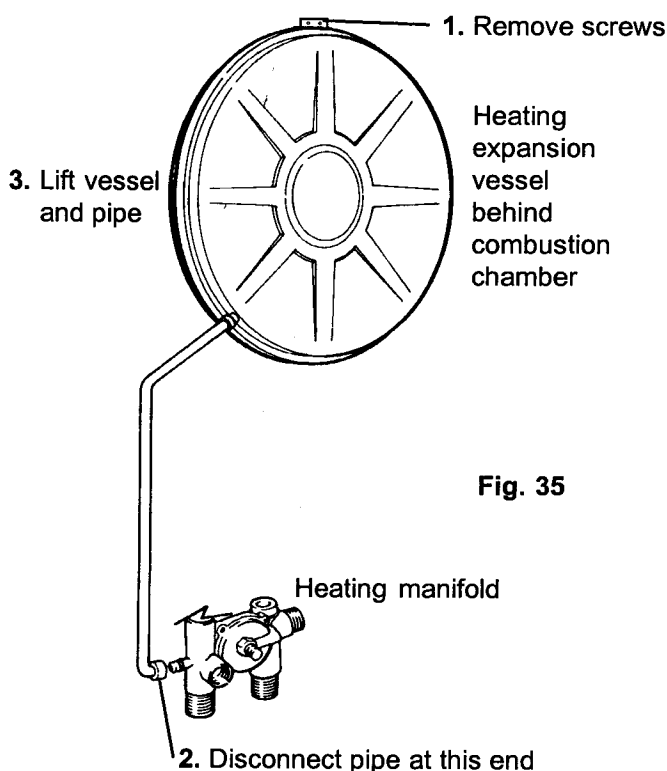

Fig. 35
- 8.16.9 Remove 2 screws securing vessel at top. Disconnect expansion pipe at heating manifold, lift vessel & pipe out of appliance.(fig. 35)
NOTE: Fig. 35 shows the expansion vessel from the 14/48 SE, the expansion vessel in the 20/70 SE is square in shape and has two securing brackets (top left and top right).